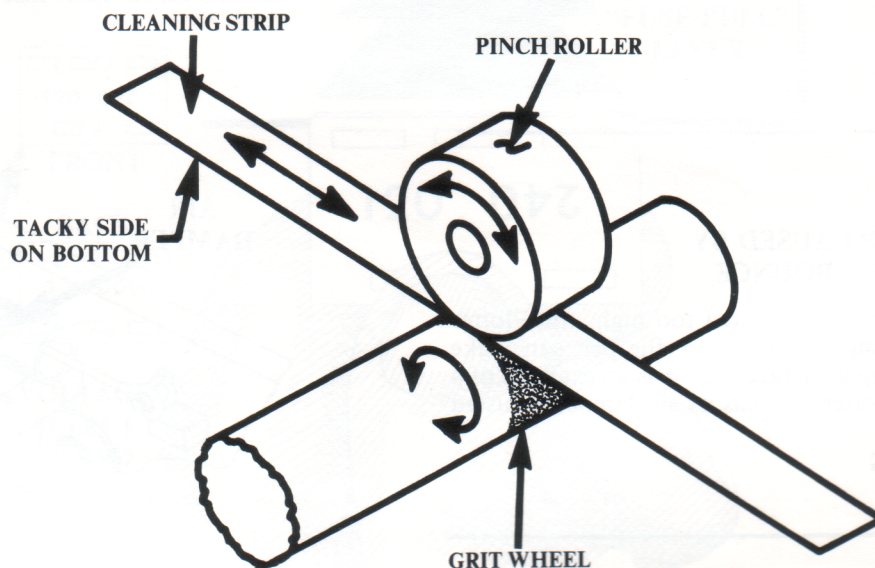

FIGURE 4-1
5. Place the cleaning strip between the pinch roller and the plot drum, with the tacky side of the cleaning strip toward the drum grit wheel as shown in Figure 4-1.